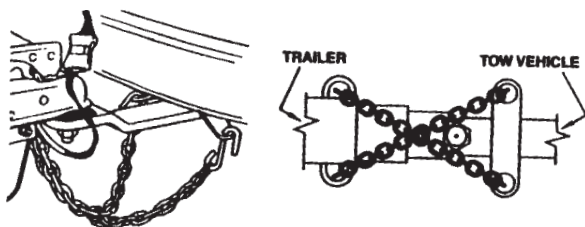

Figure S13: Crossing the Safety Chains/Cables
9. Safety chains or cables (depending on which model you have) are provided and must be used. Cross the safety chains/cables under the coupling and attach to the towing vehicle's frame or bumper. See Figure S13. Always allow slack for turns. Four Winns provides securement clips for the safety chain/cable hooks and recommends you use them. Regulations vary from state to state. Please check the local laws in your state.